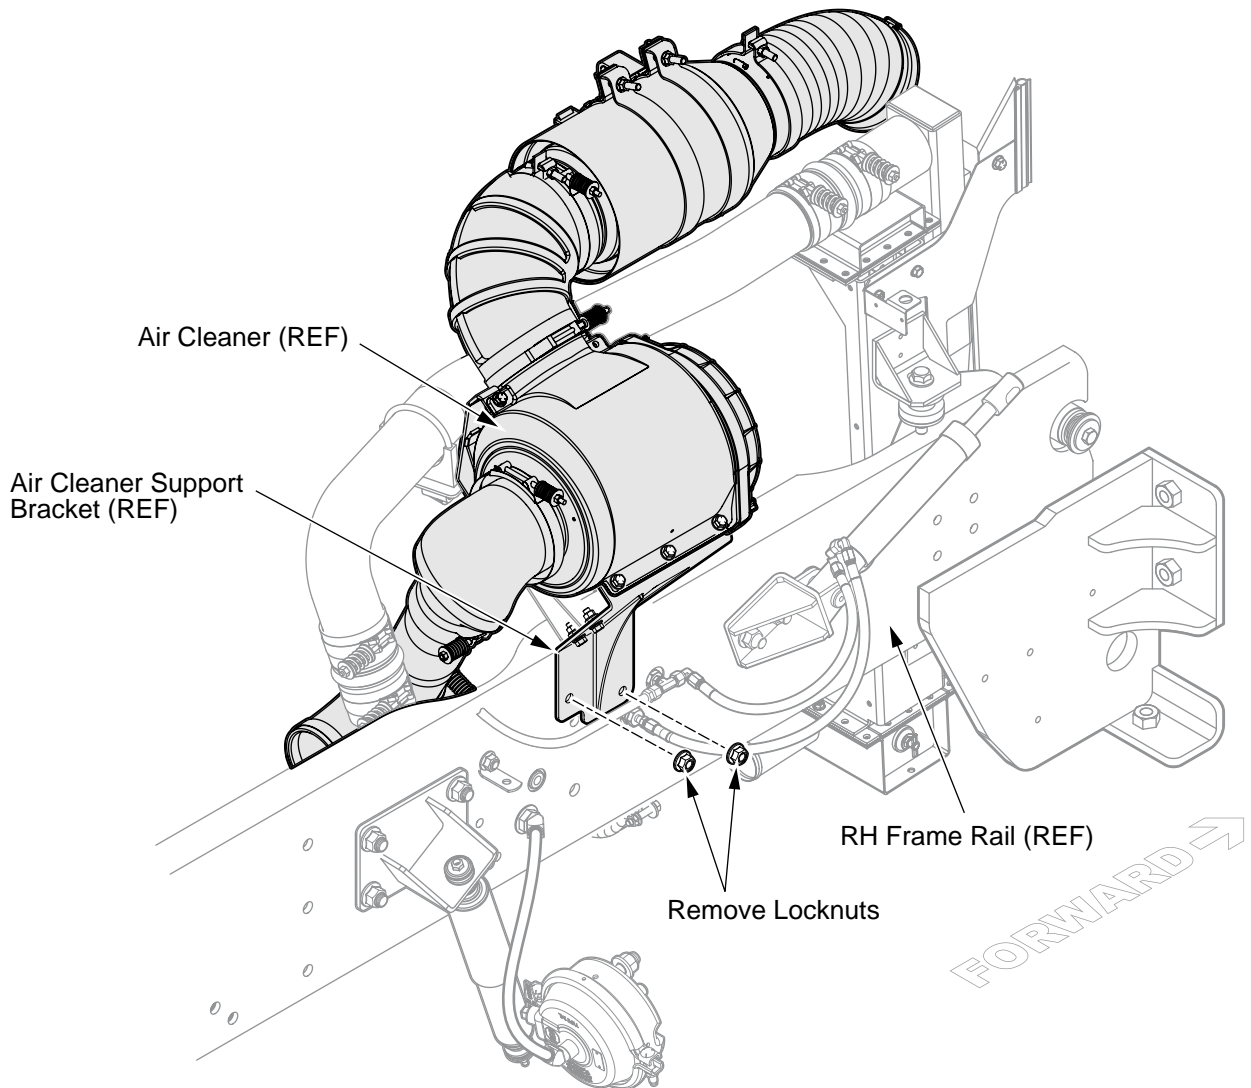

Figure 2
2. Locate the right side frame rail (see Figure 2).
3. Using a 1/2" drive 3/4" socket and a 3/4" combination wrench, remove and discard the two locknuts and the two bolts (not shown) securing the air cleaner support bracket to the frame rail and move aside for access (see Figure 2).